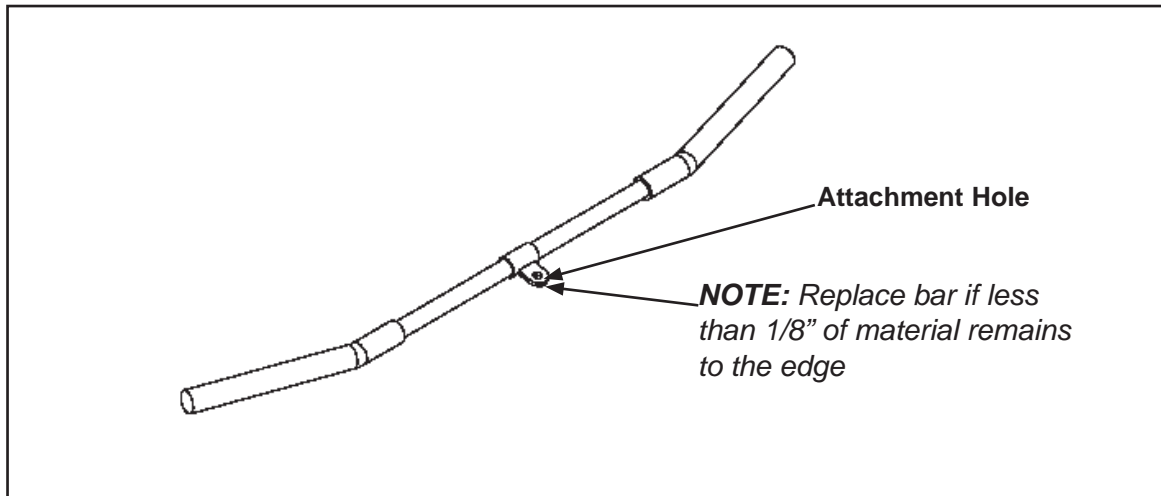

Figure 5
***!CAUTION: Replace all worn handles immediately. Do not use if less than 1/8" of material remains to the edge. See Figure 5.***